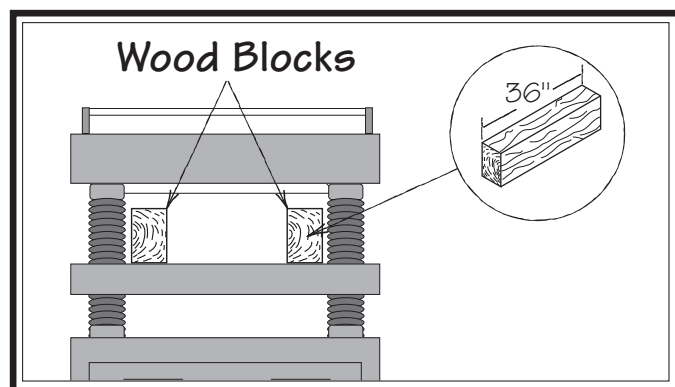

Figure 55. Wood blocks properly positioned on the planer table.
4. Place wood blocks along sides of table, as illustrated in **Figure 55**, then raise table until blocks are close to cutterhead.